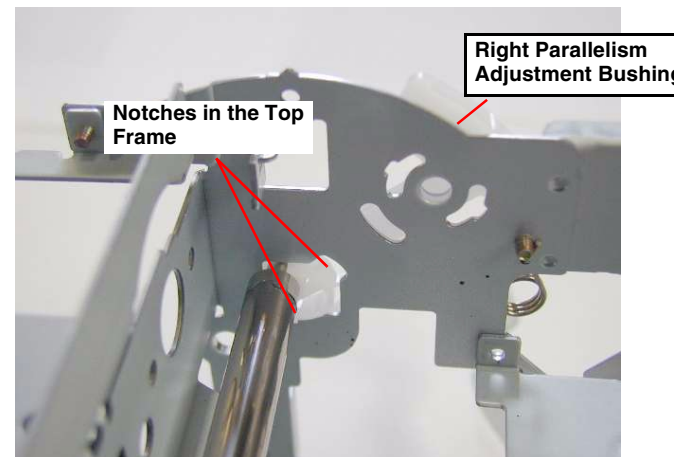

Figure 4-46. Removing the Right Parallelism AD Bushing
- 2) Remove the I/C Detector Holder by releasing the four hooks. Refer to Figure 4-46.